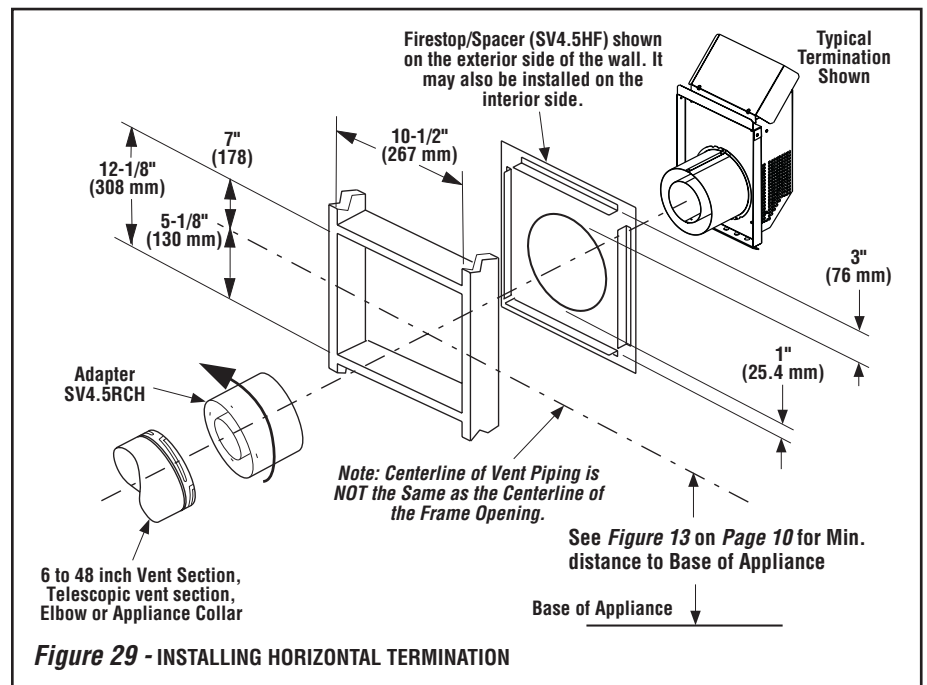
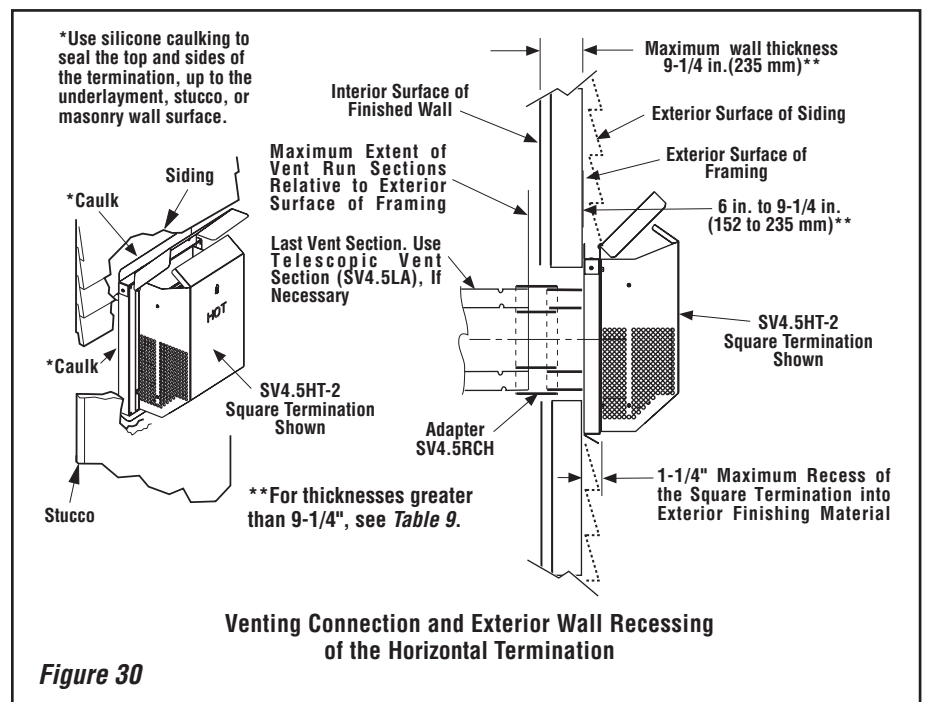

Figure 29 - INSTALLING HORIZONTAL TERMINATION
Figure 30
J. Assemble vent run to exterior wall - If not previously measured, locate the center of the vent at the exterior wall. Prepare an opening as described in **Step B and Figure 29**. Assemble the vent system to point where the terminus of the last section is located relative to the exterior surface to which the termination is to be attached as shown in **Figure 30 and Table 9**.
If the terminus of the last section is not within this distance, use the **telescopic vent section SV4.5LA**, as the last vent section. For wall thicknesses greater than that shown in **Figure 30**, refer to **Table 9 on Page 20**. This Table lists the additional venting components needed (in addition to the termination and adaptor) for a particular range of wall thicknesses.
K. Attach termination adaptor - Attach the adaptor (SV4.5RCH - provided with the termination) to the vent section or telescopic vent section), elbow or appliance collar as shown in **Figure 29** in the same manner as any SV4.5 vent component (refer to **Step E**).
L. Install Firestop/Spacer at exterior wall - When using the termination, install SV4.5HF (**Secure Vent™**), SF4.5HF (**Secure Flex™**) Firestop/Spacer over the opening at the exterior side of the framing, long side up, with the 3 inch spacer clearance at the top as shown in **Figure 29**, and nail into place.
For the last step, from outside the exterior wall, slide the collars of the termination onto the adaptor (the outer inside the outer and the inner outside the inner) until the termination seats against the exterior wall surface to which it will be attached. Orient the housing of the termination with the arrow pointed upwards. Secure the termination to the exterior wall. **The horizontal termination must not be recessed into the exterior wall or siding by more than the 1-1/4" (32 mm) as shown in Figure 30.**
Note: See Figure 30 showing wall thickness range when using SV4.5HT-2 termination kit.